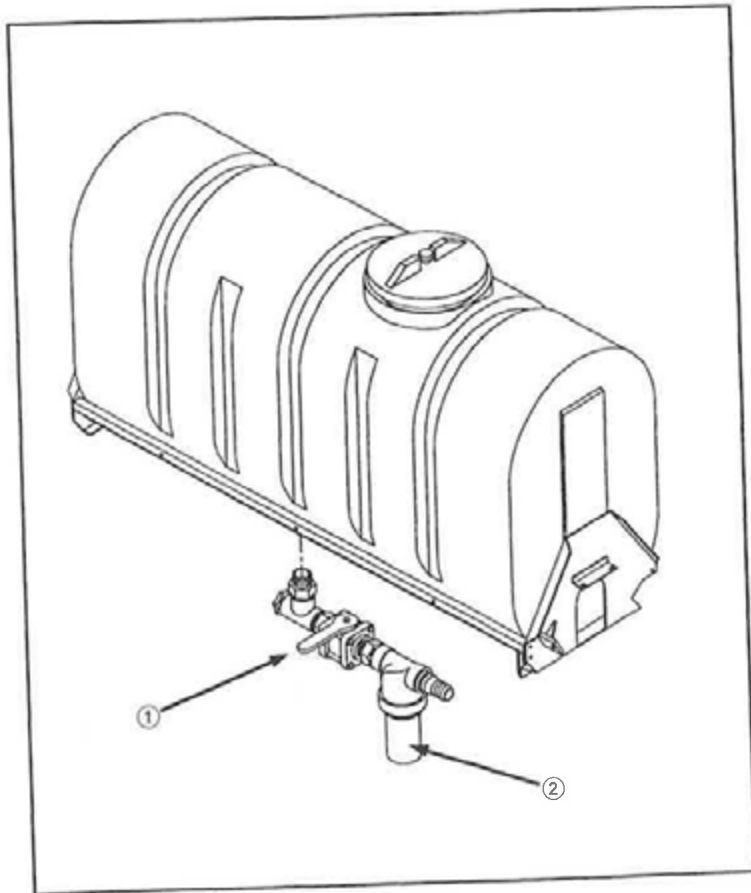

FIG 8.26
To help maintain consistent application rates, check the solution line strainers (fig. 8.26, item 2) under each solution tank daily for blockage. Close the tank shutoff valve (fig. 8.26, item 1) before removing the strainer. Clean the strainer screen as required. Be sure to wear the appropriate clothing while